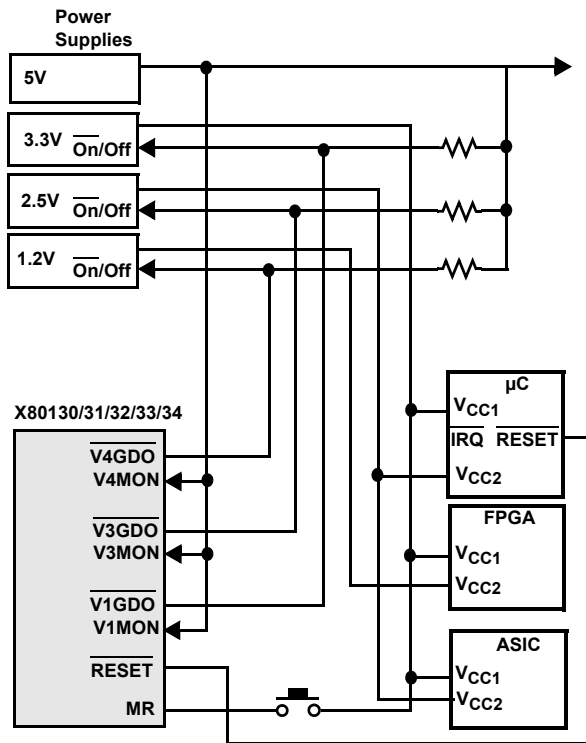
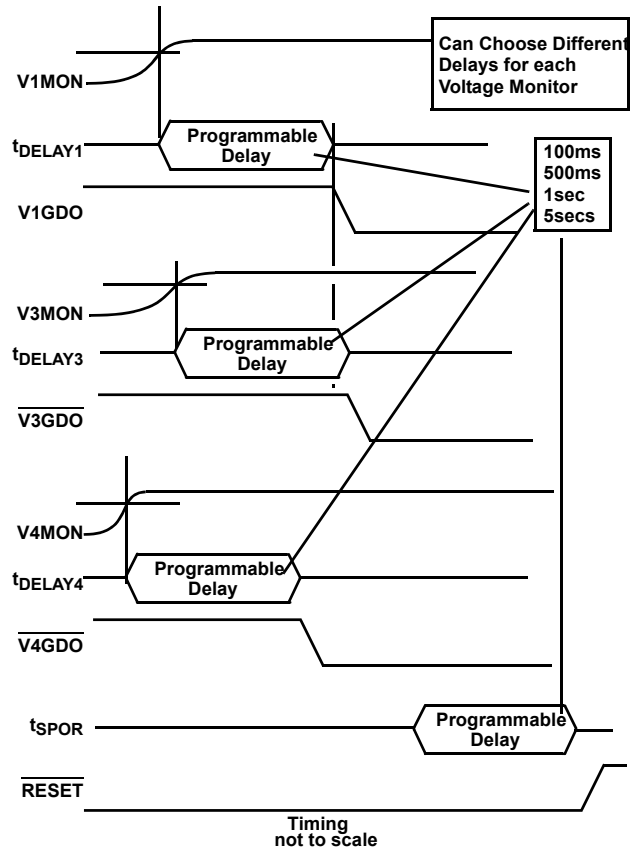

FIGURE 7. EXAMPLE APPLICATION OF PARALLEL POWER CONTROL
FIGURE 8. PARALLEL POWER CONTROL - TIMING
1. Power Up of Supplies In Parallel Using Programmable Delays (See Figure 7 and Figure 8).